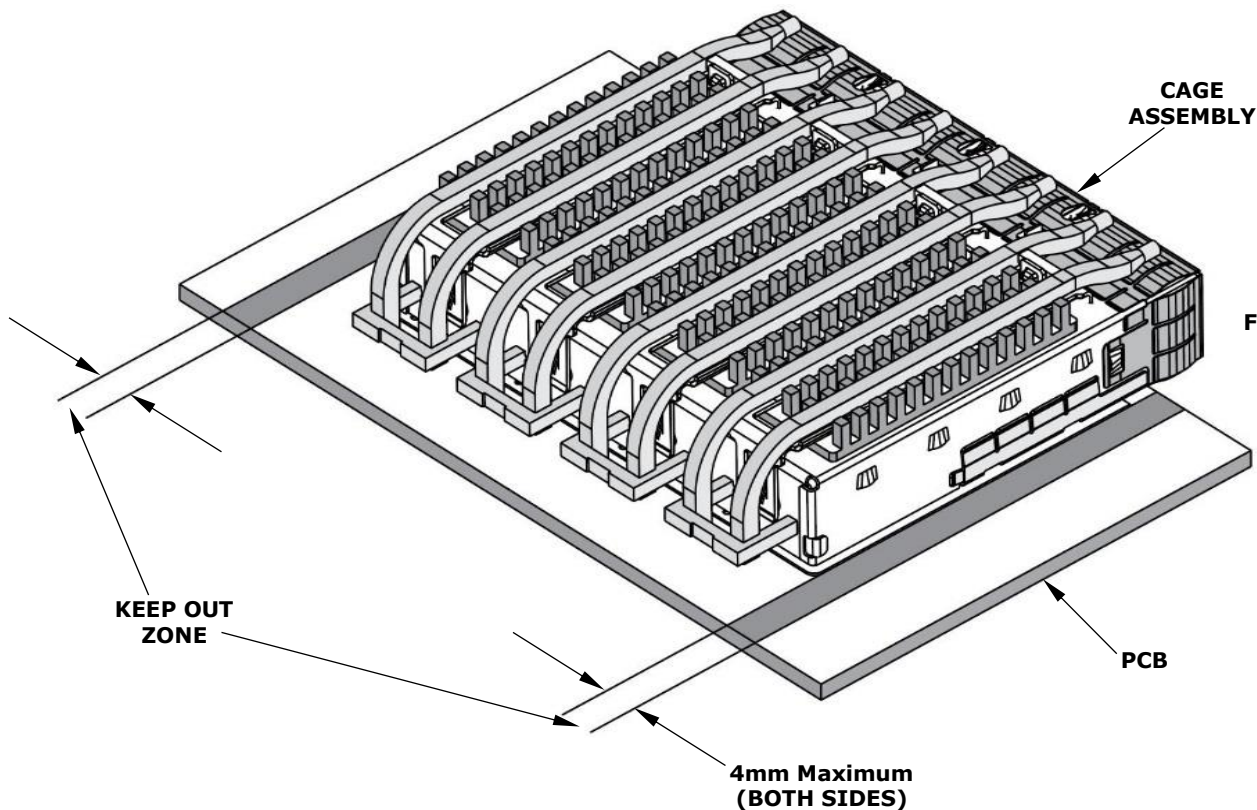

Figure 1
2. This tool requires a "Keep Out Zone" to be free of components. The tool overhangs the rear of the cage to allow for light pipe options. The right and left sides should be .16" (4mm). See Figure 1.